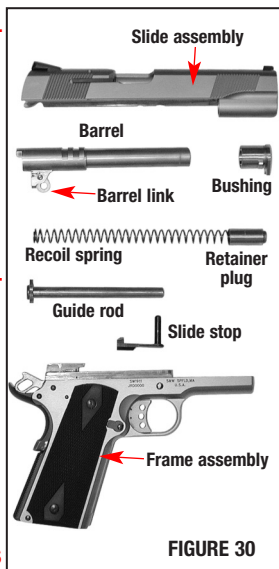

FIGURE 30
- FIGURE 30 shows the parts you will have after field stripping a pistol that uses a barrel bushing.